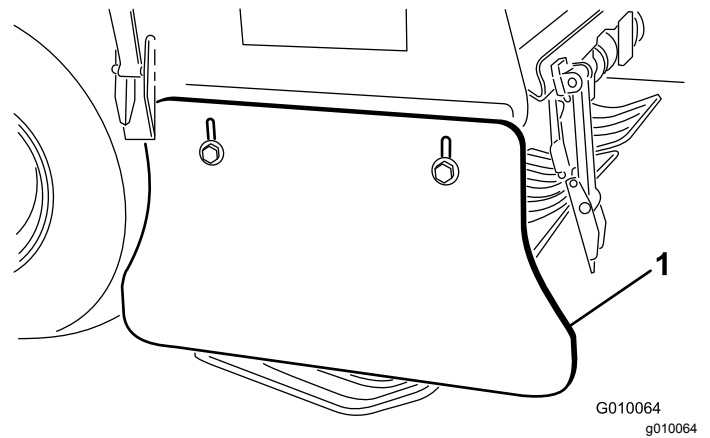

Figure 63
2. Loosen the bolts and nuts securing the side shield to frame (Figure 63).